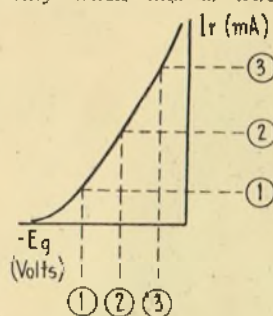

Fig. 33
If two things are related to each other in some way, perhaps the easiest way of describing the relationship is by drawing a graph which shows how one of the things varies when the other is altered. Take, for instance, a valve whose plate voltage is fixed. The other two operating quantities are the plate current and the grid voltage. In other words, if the plate voltage is fixed, we can vary the grid voltage, which will cause the plate current to vary. For every value of grid voltage there is a corresponding plate current that will flow. It is therefore possible to describe the behaviour of the valve completely for the given plate voltage by drawing a curve which shows how the plate current varies with variations of grid bias. Fig. 33 shows such a curve. It is
There are several points about the curve of Fig. 33 that are worth noting. First of all, the portion of the curve that applies to grid voltages between zero and some negative value (not specified on Fig. 33) is almost a straight line. That is to say, in this region, equal changes of grid voltage cause equal changes of plate current. This is most important, because it is only when this is true that the valve is able to
amplify without distorting the signal. We will have more to say about this in a later instalment, but even at this stage it is clear that the curves can give a very good indication of what will happen in a given circuit, for one of the things we are most interested in about amplifiers is the amount of distortion they cause. Now, on Fig. 33, negative grid volts are measured from the vertical line, to the left along the horizontal one, and if the graph were an actual curve for a particular valve, the horizontal line would be marked off in volts, from right to left. The zero volts mark would be exactly on the vertical line. Similarly, the plate current would be marked in milliamps along the vertical line, from the bottom up, with the zero level with the horizontal line. The vertical and horizontal lines are called the **axes** of the graph, and where they cut is called the **origin**. All lines drawn parallel to the vertical axis represent fixed grid voltages, while all lines parallel to the horizontal axis represent particular values of plate current. The axes, and the divisions on them, do not depend at all on the curve that is drawn or upon the valve whose curve is to be drawn. It is the curve itself which contains all the information. For example, when the grid voltage has a value represented by the vertical dotted line (1), the plate current is given by the point where this line cuts the curve. The value of plate current may be read from the curve by drawing a horizontal line from which the exact value can be read. These are shown on the figure as three pairs of dotted lines, each of which shows the values of plate current and grid voltage corresponding to one point on the curve. With the aid of a graph of this nature, it is possible to answer a number of questions. For instance, "What grid bias has to be applied to the valve for the plate current to be 10 ma.?" To answer this one, all we have to do is to find the horizontal line representing 10 ma., travel along it until we hit the curve, and then travel vertically until the horizontal axis is met. The point at which this occurs gives us the answer in volts. If, on the other hand, we are given a particular grid voltage and want to find out what plate current will flow if this grid voltage is applied to the valve, the procedure is reversed. We start by finding the vertical line corresponding to the required bias, then travel vertically to meet the curve, and then from the point of intersection we go horizontally until we meet the vertical axis, where the plate current is read off.
voltage. If Fig. 33 is examined, it will be seen that if the "curve" is a straight line, but not otherwise, the difference between the no-signal plate current and the maximum plate current will be equal to the difference between the no-signal plate current and the minimum plate current. If there is any curvature in the "curve," these plate current differences will not be equal, and distortion is indicated. It is even possible to estimate the amount of such distortion in some cases through the use of a simple formula. Fig. 33 is drawn to illustrate an actual valve, which in practice never has an exactly straight-line curve.
plate current is in finding the mutual conductance of the valve if this figure is not quoted in the data book, or if a figure is required for conditions other than those for which the mutual conductance is given. Suppose that the change of bias in going from position (2) on Fig. 33 to position (3) is exactly one volt and that the plate current (2) is 4 ma. and the plate current (3) is 6.5 ma. In this case, a change of grid bias of one volt causes a plate current change of 2.5 ma. The plate current change is therefore 2.5 ma. for each volt of grid-voltage change, or, in other words, 2.5 ma. per volt, and this is the mutual conductance of the valve between points (2) and (3) on the curve. Commercial valve-testers use the same principle for actually measuring the mutual conductance of the valve. Here the grid voltage is actually changed by one volt, and the change in plate current is read on a meter, thus giving the required answer, directly in milliamperes per volt.
In the whole of this discussion, we have assumed that the plate voltage was fixed. However, it is possible to vary this as well as the grid voltage, so that the question crops up, "How does the curve given in Fig. 33 make allowance for changes in plate voltage?" The answer is that it does not. In other words, a single curve is not all that we need to display the operation of the valve under any conditions of plate voltage and grid voltage. The single curve of Fig. 33 tells us what happens under any conditions of grid voltage only for one particular plate voltage. (To be continued.)